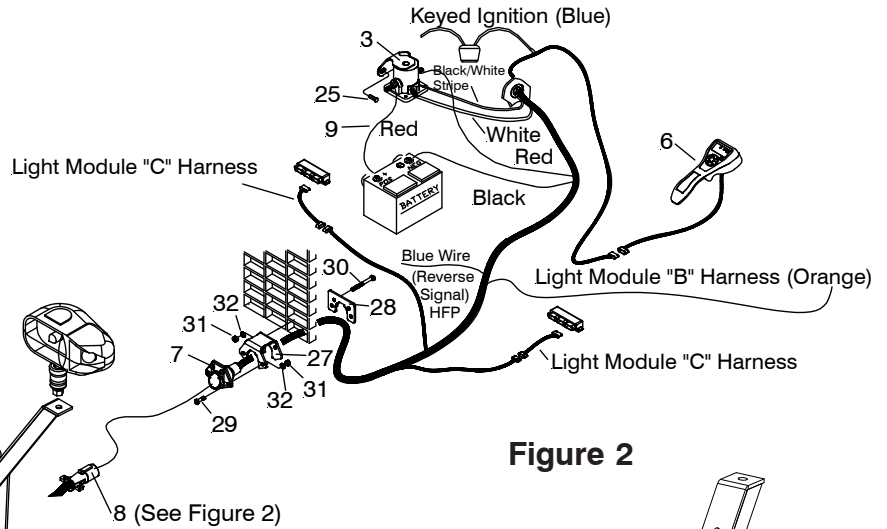

Figure 2
- A. Install the E-72 Mounting Bracket (10) to the Lift Frame and Light Bracket (**passenger side**) from the CLF Carton using 5/16-18 x 1-1/2" Bolts (18) and 5/16-18 Locknuts (22). Install the E-72 Lift Assembly (1) to E-72 Mounting Bracket Assembly (10) using Bolt H 3/8-16 x 1" (19) and 3/8 Lockwasher (24).
- B. Attach Lift Arm packed in the CLF Carton to Lift Frame using Bolt H 5/8-11 x 5-1/2" and 5/8-11 Locknut. Attach the Lift Cylinder (4) to the Lift Arm using Bolt H 5/8-11 x 4-3/4" and 5/8-11 Locknut. Attach the Lift Cylinder (4) to the Lift Frame using Bolt H 5/8-11 x 3-1/4" and 5/8-11 Locknut. Attach elbow (26) to E-72 Lift Assembly. Attach hose (5) to Straight Fitting on E-72 (see Figure 2) and then to elbow (26).
- C. Attach fixed end of Angle Cylinders (11 & 14) to the A-Frame with a 5/8-11 x 3-1/2" bolt (20) and 5/8-11 locknut (23) on each side.
- D. Attach live end of Angle Cylinder rod (11 & 14) to the pivot bar using a 5/8-11 x 4-1/2" bolt (21) and 5/8-11 locknut (23) on each side.
- E. Attach angle cylinder hoses (12 & 15) to Straight Fitting on E-72 (see Figure 2). Thread hose face seal fittings onto the adapters hand tight. Then tighten locking nut another 30 to 45 degrees of rotation. See Figure 2. **See Figure 2 for hose routing and fitting angles. Use zip ties to secure and route hoses to avoid contact with moving parts of the plow assembly.**
- F. Run Universal Truck Side Harness (7) through a hole in grille and into the engine compartment. Sandwich vehicle grill between Plug Bracket (27) and Plate (28) using Bolt H 5/16-18 x 3" (30), 5/16 Lockwasher (32) and 5/16-18 Finish nut (31). Secure Universal Truck Side Harness (7) to Plug Bracket (27) using Bolt H 5/16-18 x 1" (29), 5/16 Lockwasher (32) and 5/16-18 Finish nut (31).